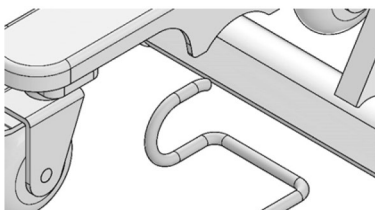

Figure 1
1. With the bed resting on its wheels or rollers, place the bumper in front of the axle of the head-end caster base (*Figure 1*)